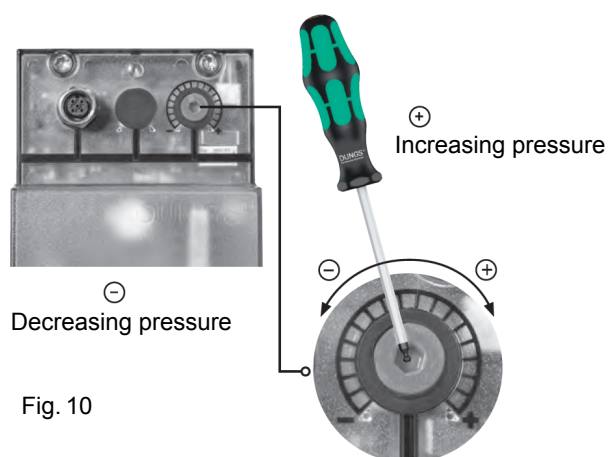
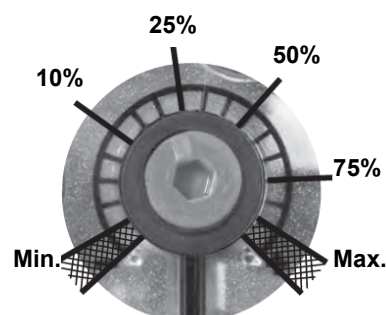

Fig. 10
Fig. 11
**ATTENTION:** To set the outlet pressure of the VD-R regulator, act on the adjustment ring nut (Fig. 10). The position of the indicator in the dial indicates the value of the outlet pressure calculated as a percentage of the full scale of the PS sensor (Fig. 11)